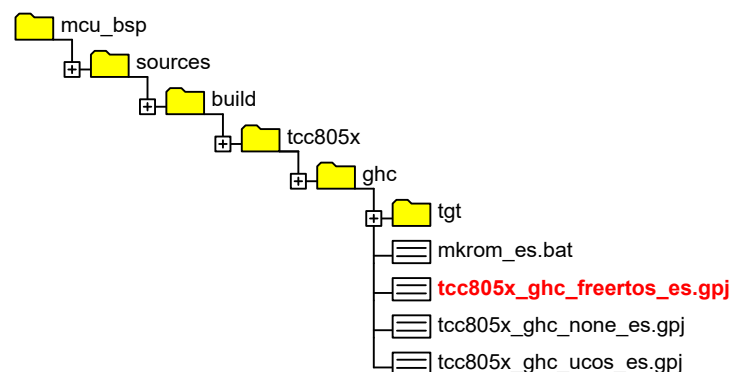

Figure 5.9 Generated Project Files
- 1) In project directory, **.gpj** files and **tgt** folder are automatically generated as shown in the Figure 5.9 Generated Project Files.